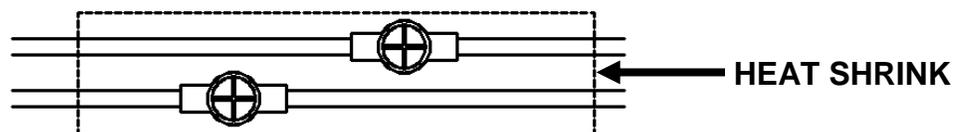

Figure 3. Thermocouple to Cable Connection
3. Connect the EGT thermocouple to the extension harness as shown in Figure 3.